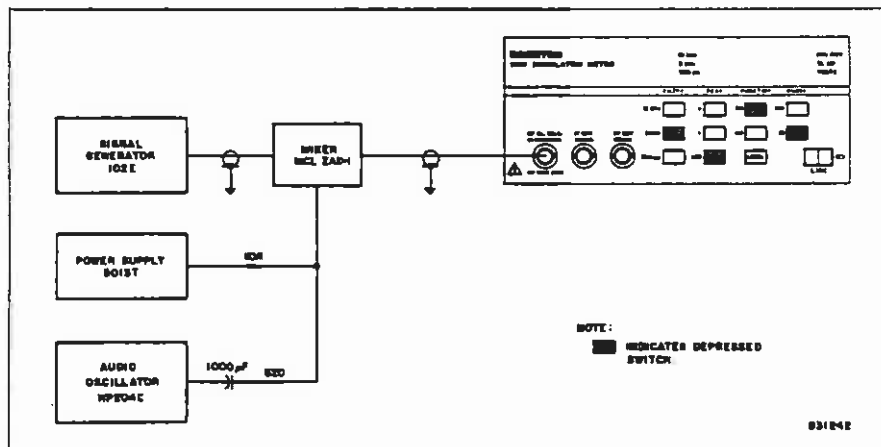

Figure 2-8. Test Setup: A.M. Rejection, A.M. Frequency Response, And A.M. Audio Distortion
1. Connect the 8210 and test equipment as shown in Figure 2-8.
2. Set the 8210's controls as shown in Figure 2-8.
g. A.M. Audio Distortion. NOTE: Step 2-6f, the A.M. Rejection check, should be completed before performing this verification. Leave the equipment set up as in Figure 2-8.